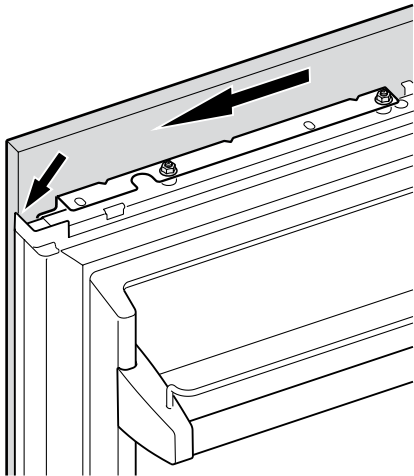

**Figure 29**
8. Open the refrigerator door and hang the panel on the adjusting bolts (**Figure 29**).
9. Screw on the hex nuts to the adjusting bolts and finger tighten temporarily (**Figure 29**).